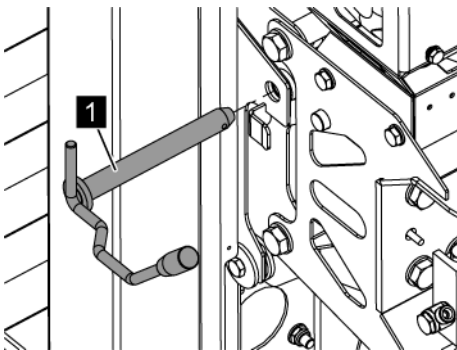

Fig. 154: Removing the basket bolt
7. → Pull out the basket bolt (Fig. 154/1).